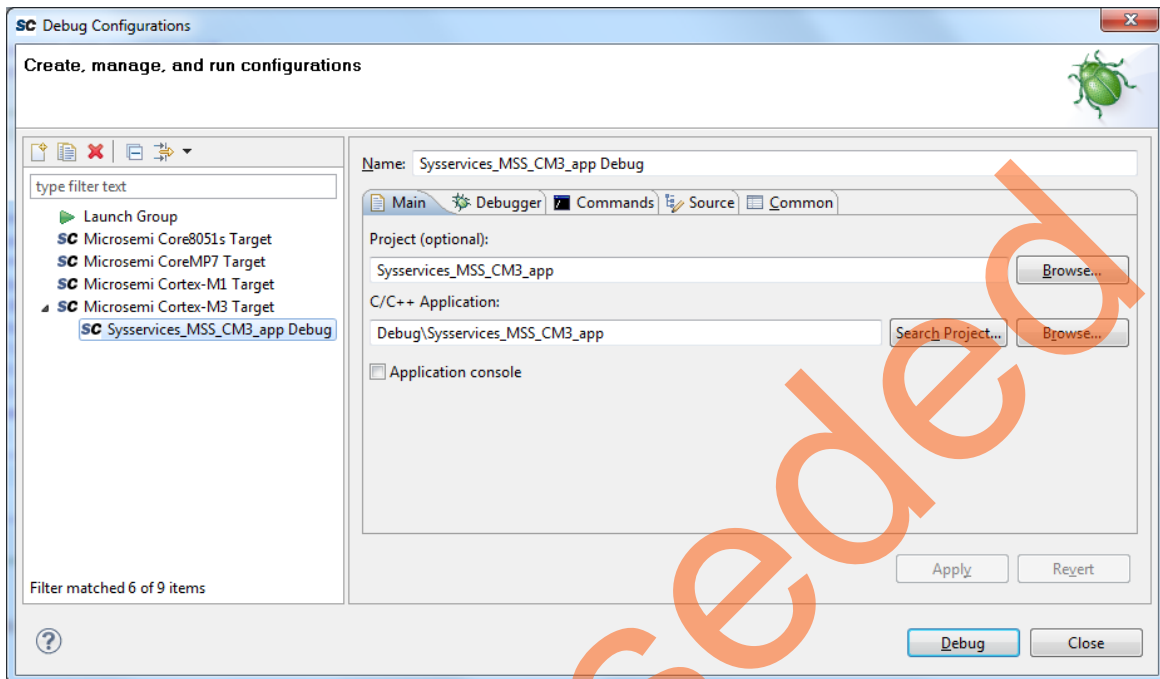

Figure 38 • Debug Configurations Window
10. Select **Debug Configurations** from the **Run** menu of the SoftConsole. The **Debug** dialog box is displayed. Double-clicking the **Microsemi Cortex-M3 Target** displays a window similar to Figure 38.